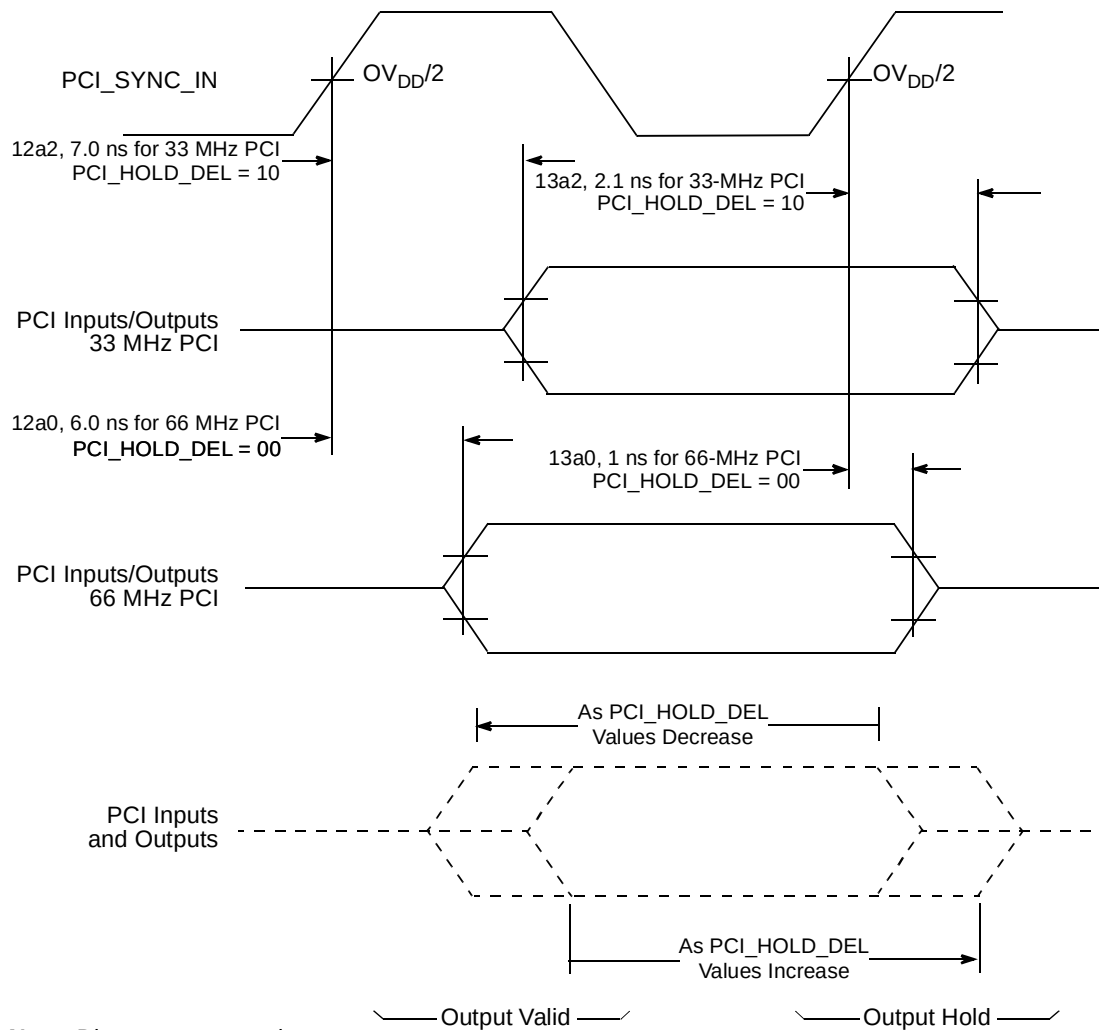

Figure 15. PCI_HOLD_DEL Effect on Output Valid and Hold Times
12a	PCI_SYNC_IN to output valid, see Figure 15
13a	Output hold (PCI), see Figure 15
4. To meet minimum output hold specifications relative to *PCI_SYNC_IN* for both 33- and 66-MHz PCI systems, the MPC8245 has a programmable output hold delay for PCI signals (the *PCI_SYNC_IN* to output valid timing is also affected). The initial value of the output hold delay is determined by the values on the $\overline{MCP}$ and $\overline{CKE}$ reset configuration signals; the values on these two signals are inverted and stored as the initial settings of $PCI_HOLD_DEL = PMCR2[5, 4]$ (power management configuration register 2 <0x72>), respectively. Since $\overline{MCP}$ and $\overline{CKE}$ have internal pull-up resistors, the default value of PCI_HOLD_DEL after reset is 0b00. Further output hold delay values are available by programming the PCI_HOLD_DEL value of the PMCR2 configuration register. Figure 15 shows the PCI_HOLD_DEL effect on output valid and hold times.
Figure 15 provides the PCI_HOLD_DEL effect on output valid and hold times.